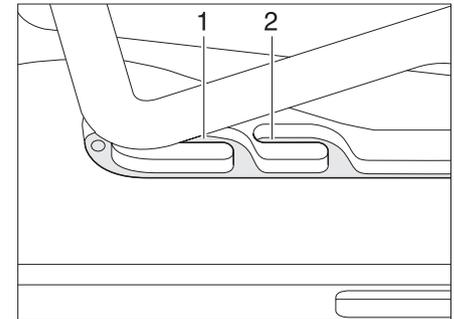
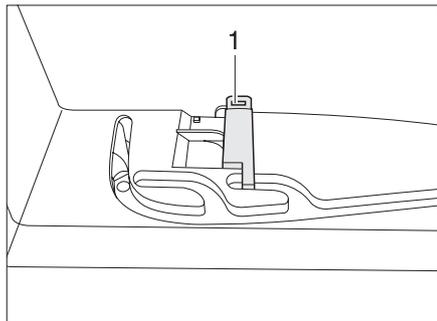

Fig. 35 Heki skylight in ventilation position
Fig. 36 Ventilation position locking mechanism
The Heki skylight can be put in two ventilation positions: Bad weather position (Fig. 35,1) and central position (Fig. 35,2). Depending on the model, the skylight can be locked in the central position with the latch (Fig. 36,1).
- ▶ Push the bar slightly upwards and into the selected guide (Fig. 35,1 or 2) and lock if necessary.